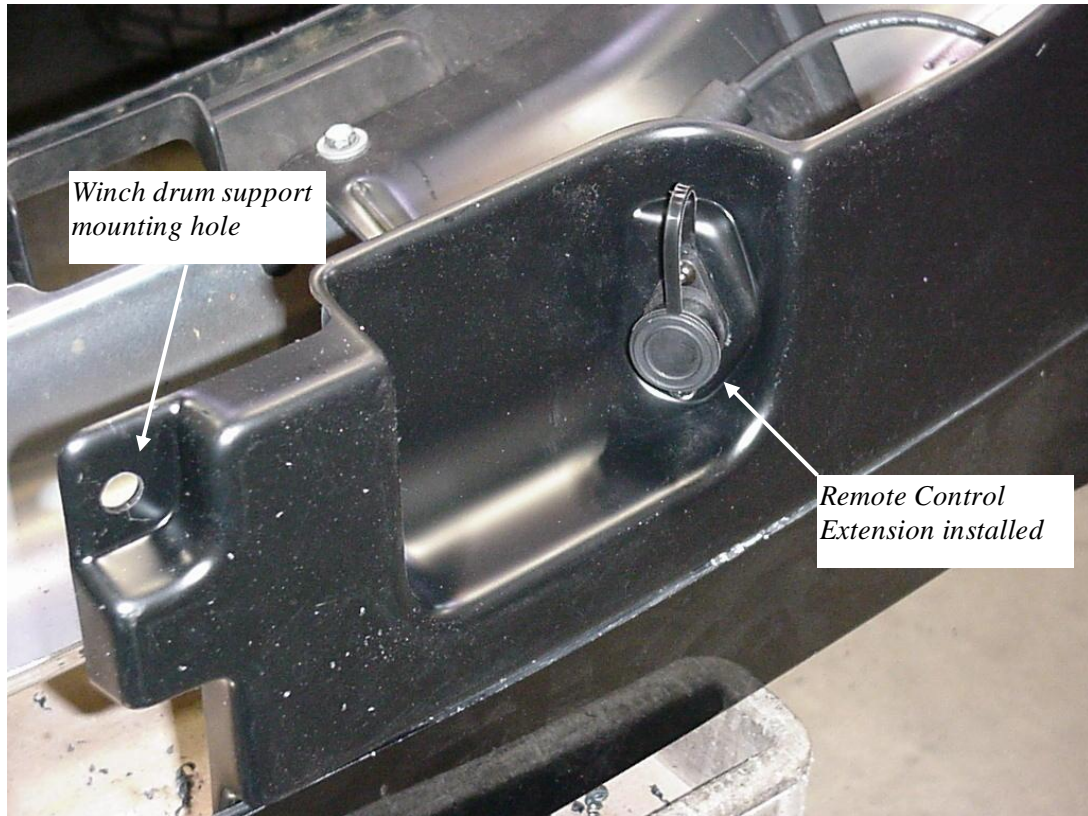

Figure 5 Remote Control Extension installed
8. Locate the Remote Control Extension supplied with the Semi-Hidden Winch Kit. Pass it through the large hole in the LH Skirt from the top. Secure it with the #10 x 1" screws, washers and lock nuts. **Figure 5**
10. Insert a 7/16" hex socket screw through the hole in each Skirt, into the corresponding threaded hole in the top, rear of each winch drum support (located under the lower edge of the grille). Just "snug" these screws. Do not over tighten. **Figure 5**